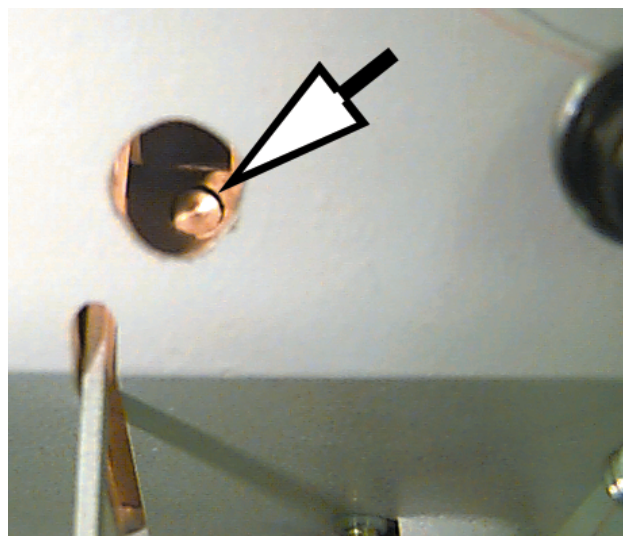

Figure 4-9
2. When **needle bar driver** displays, press . There is a small black plastic cover centered at the top of the head. Remove the cover; the needle bar driver will be visible through the hole. Place 2-3 drops of oil on the needle bar driver inside the hole (refer to Figure 4-9). Replace the black cover after lubrication. Press  when done.